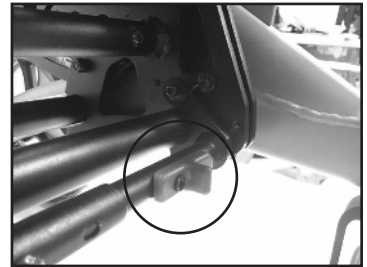

Fig. 20
6. Lift seat module safety latch lock. Fig. 20